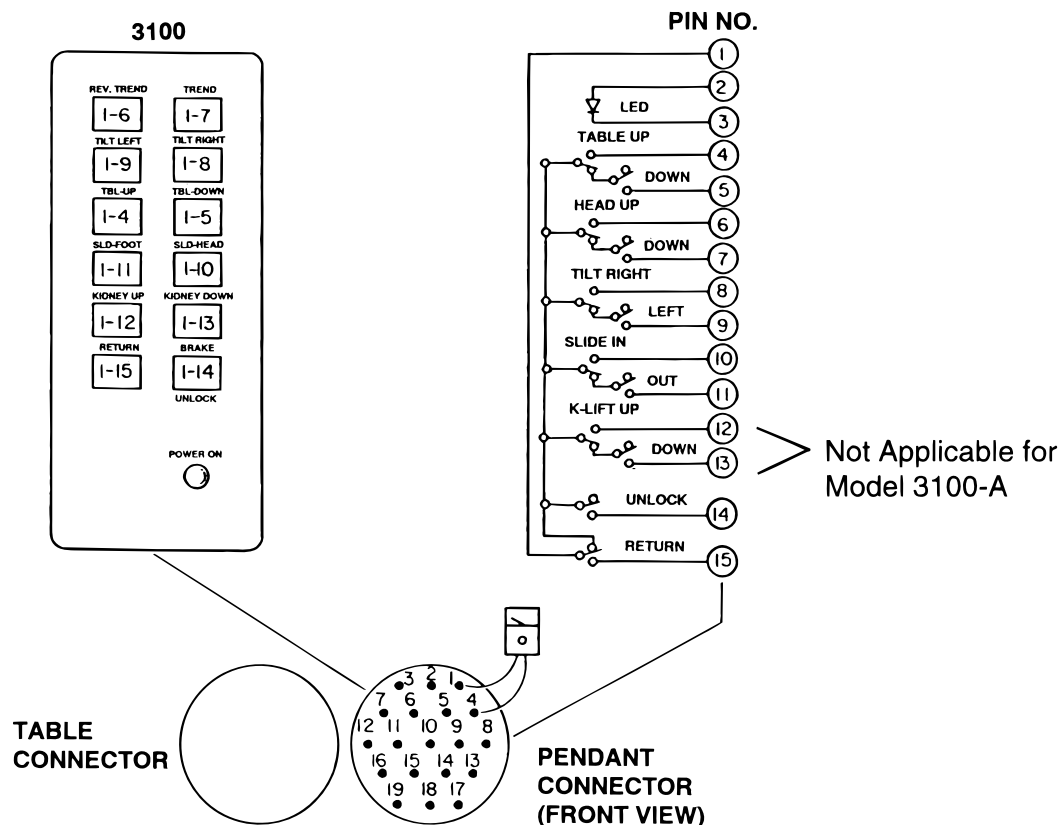

Figure 6-4. Pendant Control Test
2. Use an ohmmeter R x 1 scale and check the continuity between pin 1 and pins 4 through 15. See figure 6-4.